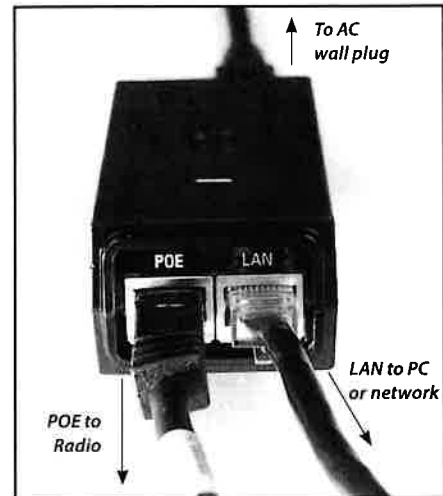

Figure 1 • POE adapter.
4. Connect the radio cable to the POE port on the POE adapter (see Figure 1). The POE adapter is not rated for outdoor use; it must be placed indoors. This is how the radio gets power. Do not plug anything except the radio cable into the POE port.